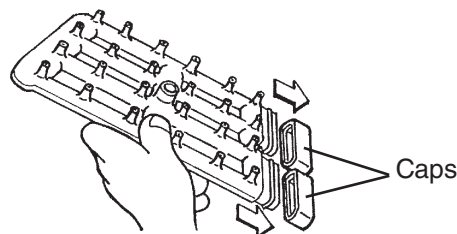

Fig. 42
- 8) Remove the two caps. See Fig. 42.